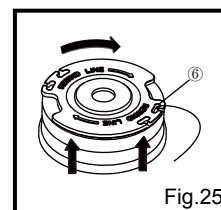

Fig. 25
- Place the end of the line in one parking slot ( ⑥ ) located on the top cover of the spool, leaving some of the line out (Fig. 25).
- Install the spool in trimmer head as described in the Spool Replacement section. Check to make sure the line is taken out of the parking slot ( ⑥ ) on the spool before replacing the spool cover.